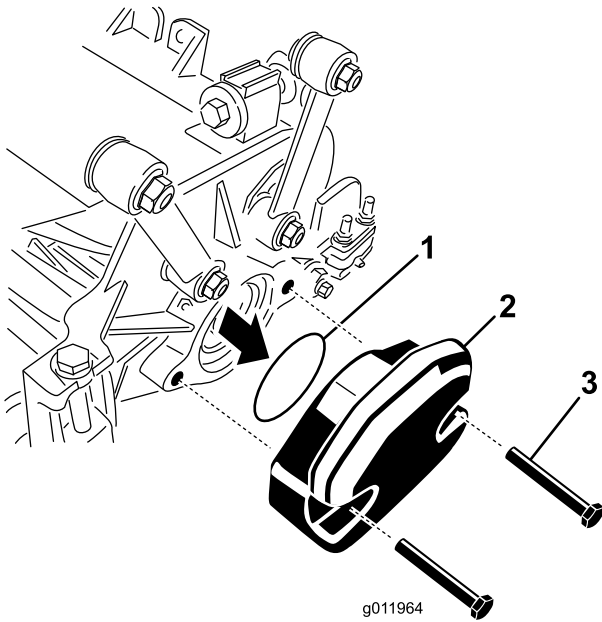

Figure 6
1. On the #3 cutting unit, remove the 2 cap screws securing the counter weight to the left end of the cutting unit. Remove the counter weight (Figure 6).